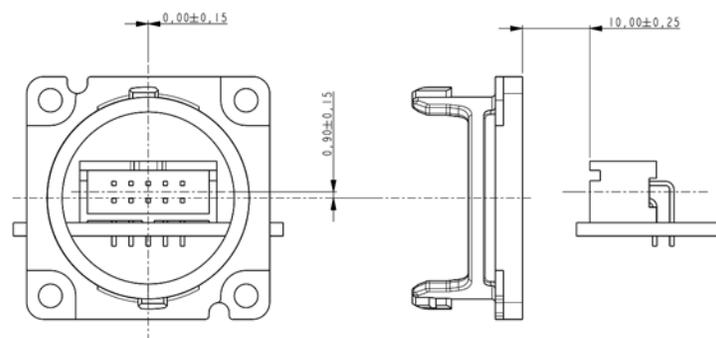

Figure 7
- Added new alignment information and diagram (new Figure 7) and updated succeeding figure numbers.